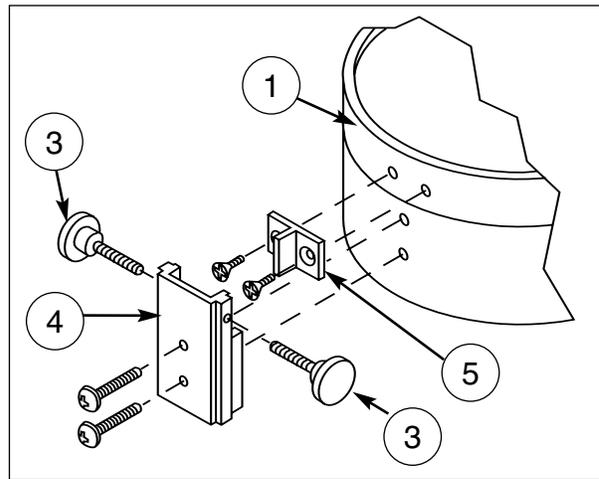

Fig. 3: Azimuth Control
**Version 1:** If the wedge (1, Fig. 3) is flush with the edge of the tripod (2, Fig. 3), as depicted in Fig 3:
1. If necessary, use a Phillips screwdriver to remove the four set screws (which plug the attachment holes) from the wedge (1, Fig. 3) and field tripod (2, Fig. 3).
2. Attach the azimuth arm (5, Fig. 3) to the wedge body using the two 8-32 x 1/2" flat-head machine screws.
3. Attach the azimuth base (4, Fig. 3) to the tripod using the two 8-32 x 1" round-head machine screws.
4. Thread the two azimuth adjustment knobs (3, Fig. 3) into the azimuth base, until they just touch the azimuth arm (5, Fig. 3).
1. As described in Version 1, Fig. 3,, remove, if necessary, the four set screws (which plug the attachment holes) from the wedge (1, Fig. 3) and field tripod (2, Fig. 3).